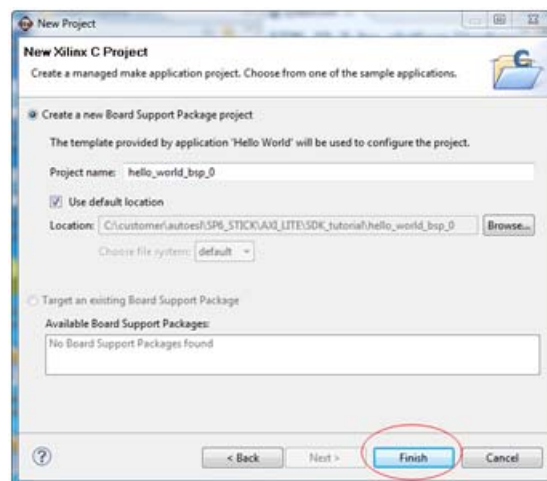

Figure 1-24: Finish New C Project
6. Click **Finish**, as shown in Figure 1-24.